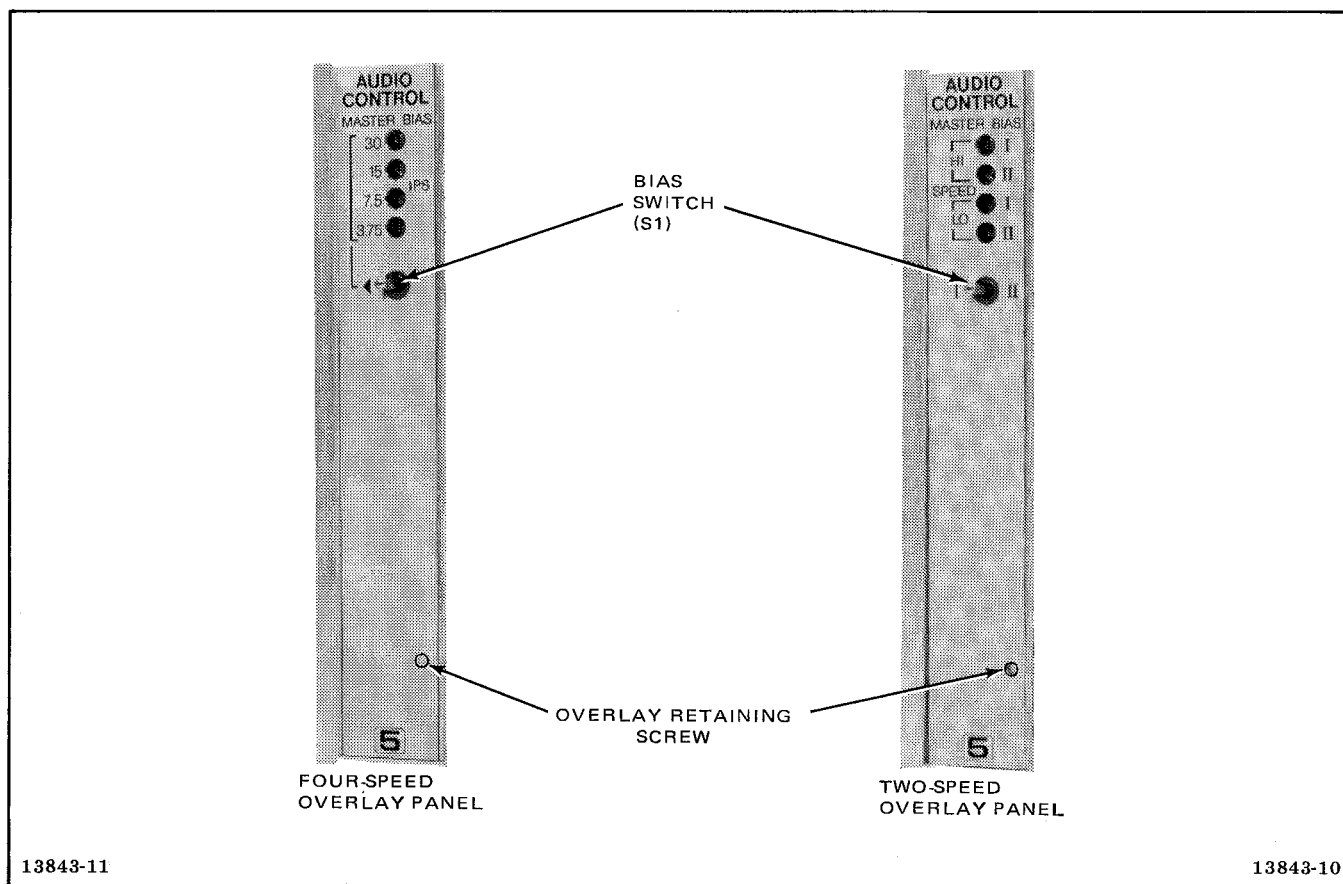

Figure 5-4. Overlay Panels, Audio Control PWA No. 5
recorder/reproducer is programmed for two-speed master bias operation, a bias switch on the front panel of audio control PWA No. 5 (Figure 5-4) enables the operator to select one of two different master bias levels for each of the two operating speeds.
2. Two overlay panels are furnished with the PWA. If the two-speed overlay panel (Figure 5-4) is not in the front position on the PWA, remove front-panel screw, interchange overlay panels, and reinstall screw.
2. Two overlay panels are furnished with the PWA. If the four-speed overlay panel (Figure 5-4) is not in the front position on the PWA, remove front-panel screw, interchange overlay panels, and reinstall screw.